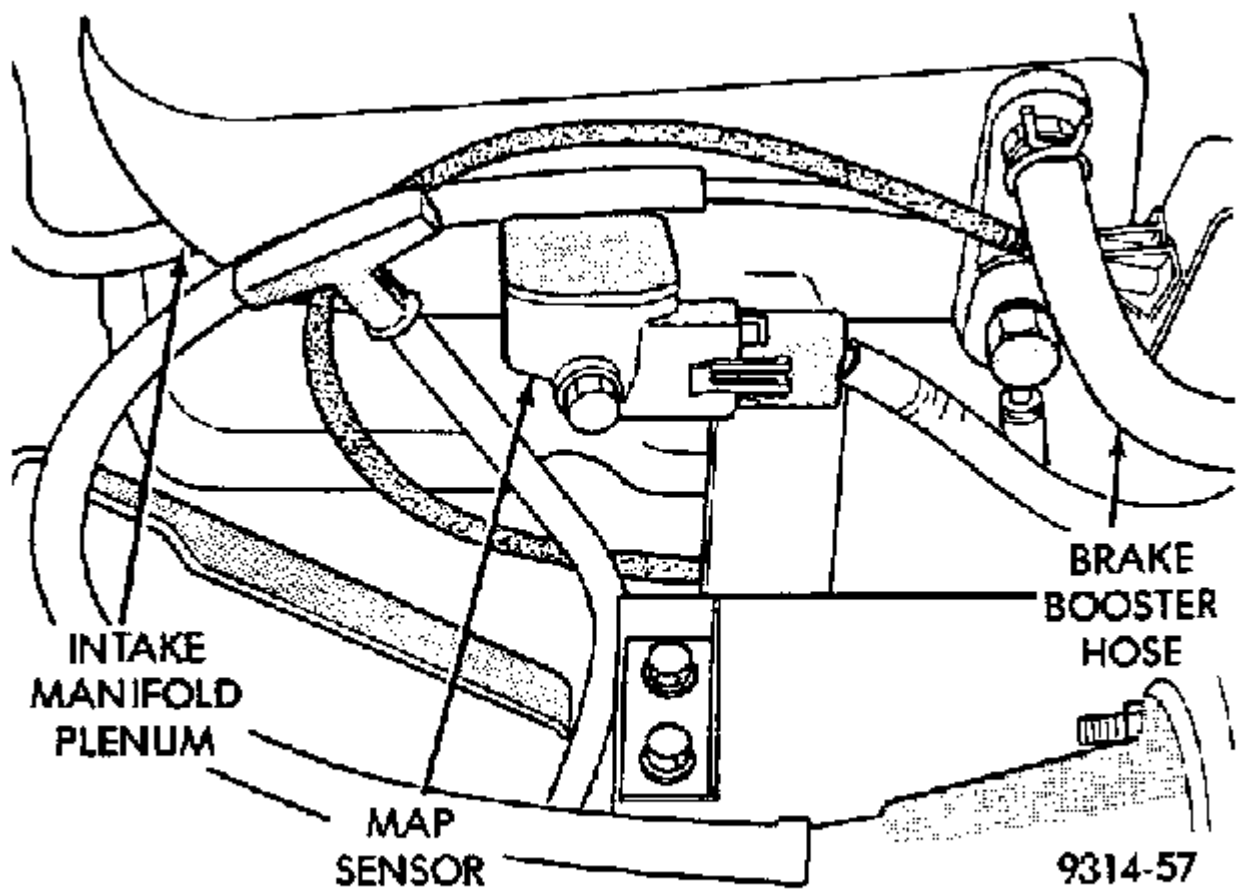

Figure 3
35. Connect the MAP sensor electrical connector (Figure 3).